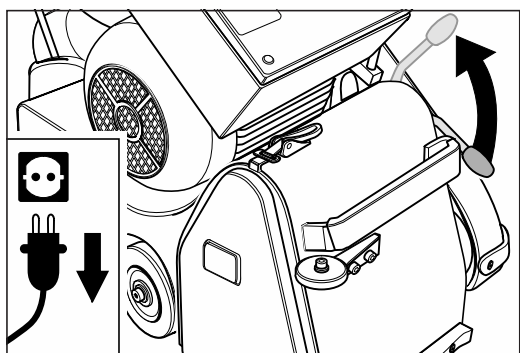

Fig. 11 Pull the operating lever of the drive unit upwards. Similar to figure.
- 7 Pull the operating lever of the drive unit upwards to bring the tensioning roller down (fig. 11).